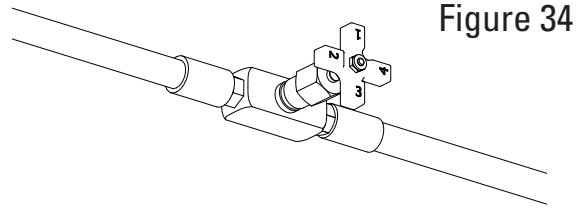

Figure 34
1. Turn off all auxiliary line valves or disconnect all tower and auxiliary cylinders from system, Figure 34.